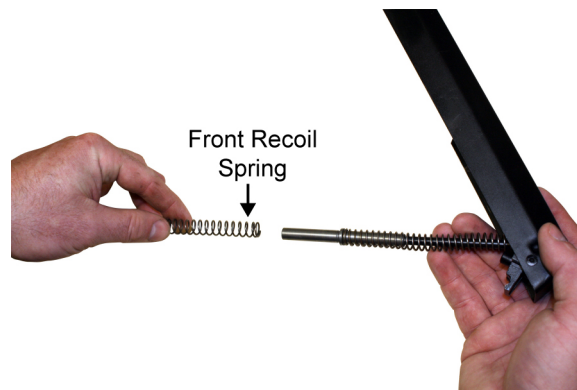

Figure 10. Install the Front Recoil Spring.
- Install the front recoil spring onto the guide rod bushing. Refer to Figure 10.